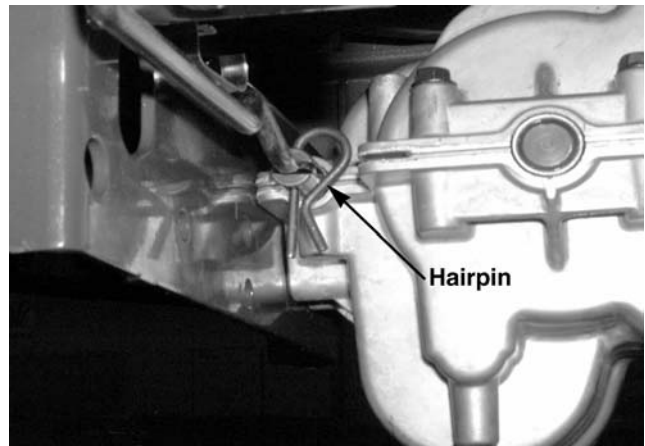

Figure 9-27
7. Remove the hair pin that secures the shift linkage to the shift fork and set the shift linkage aside. See Figure 9-27.